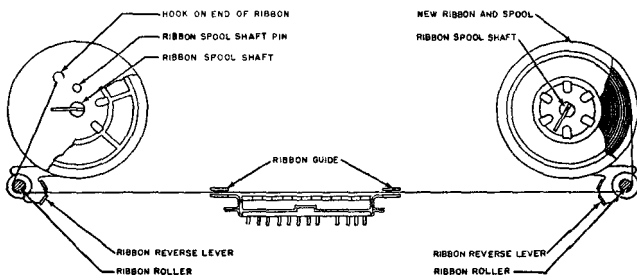

Fig. 2
2.02 To replace the ribbon, open the dome, raise the toggles on the ribbon-spool shafts as shown in Fig. 2 to the vertical position, and remove both spools. Engage the hook that is on the end of the new ribbon in the hub of the empty spool. Wind a few turns of the ribbon onto the empty spool to make sure that the reversing eyelet has been wound upon the spool. Place the spools on the ribbon-spool shafts in such a manner that the ribbon feeds from the rear of each spool without twisting. Turn each spool slightly until the driving pins on the spool shafts engage the holes in the spools. Thread the ribbon forward around both ribbon rollers, through the slots in the ribbon-reverse levers, and through the ribbon guide on the typebox carriage. Make certain that the ribbon remains in the guide slots and that both reversing eyelets are on the ribbon-spool side of the reverse levers. Eliminate any slack in the ribbon by turning one of the ribbon spools.